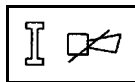

Fig. 99
- Keep the joystick deflected whilst you press and hold button S3 (**Fig. 99**).